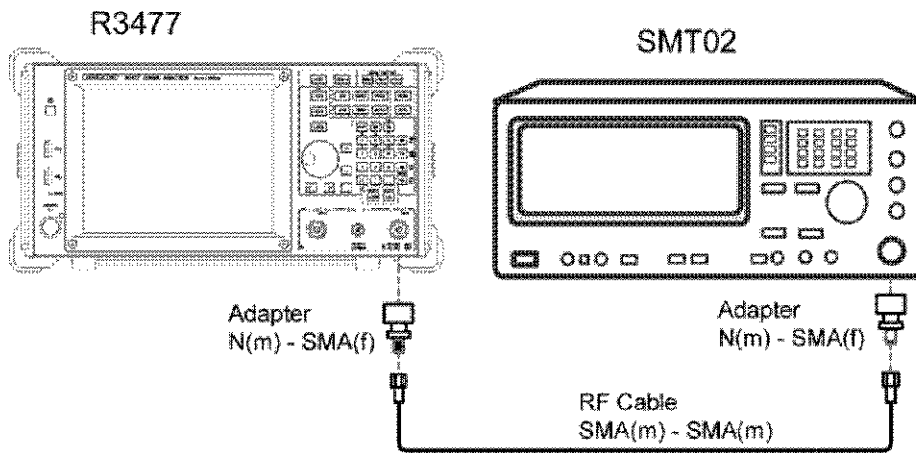

Figure 2-9 Sweep Time Accuracy Test
1. Connect the instruments as shown in Figure 2-9.